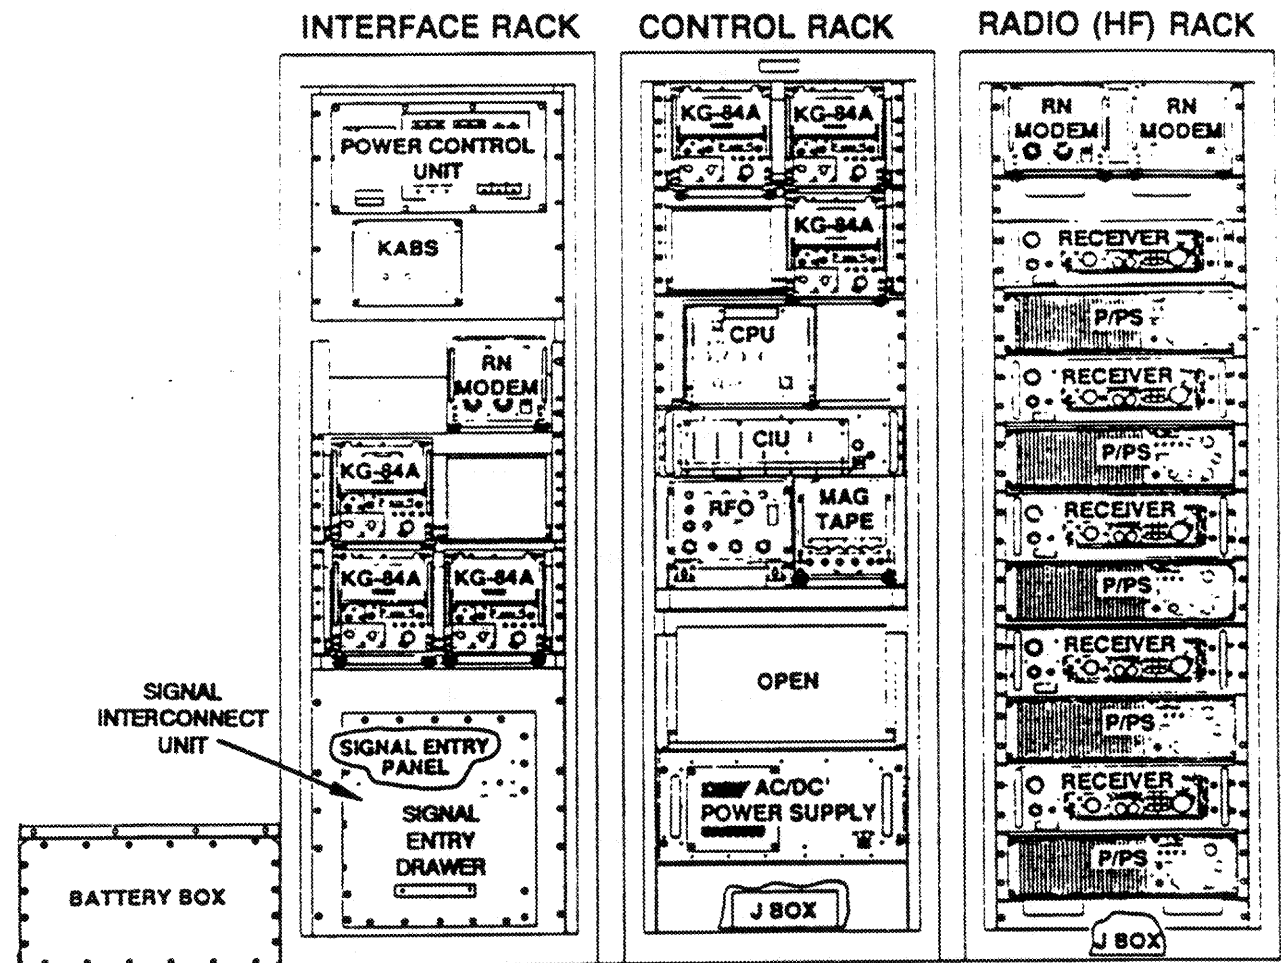

Figure 3-2. Split Site Receive Station
c. The Receive Station (RXS) consists of the following equipment racks (see Figure 3-2):
- Radio (HF) rack